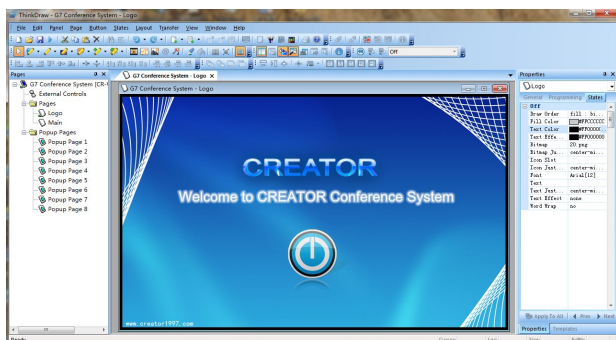

Figure 2-19
1. Open or create a new TPG project, edit and save, as shown in figure 2-19: